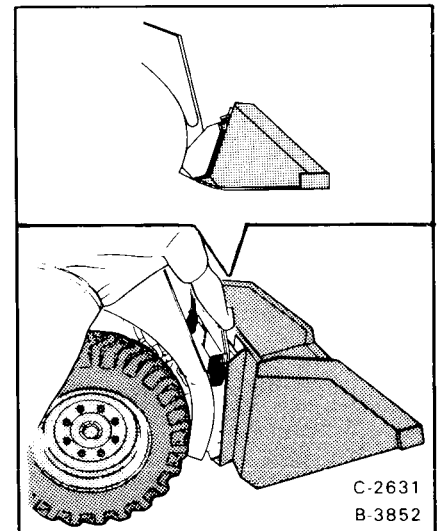

Fig. 27 Locking Bob-Tach Levers
4. Push down on the Bob-Tach levers (Fig. 27) until the levers are in the locked position.